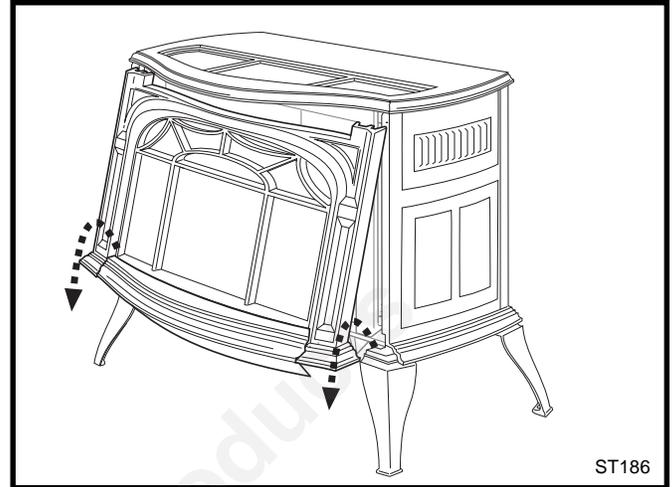

Fig. 8 Remove the front plate.
2. **Remove the Front Plate.** Grasp one side and the bottom, and lift the front plate as a unit (the control door attaches to the stove front). Swing the bottom edge out and away from the stove body, (Fig. 8)